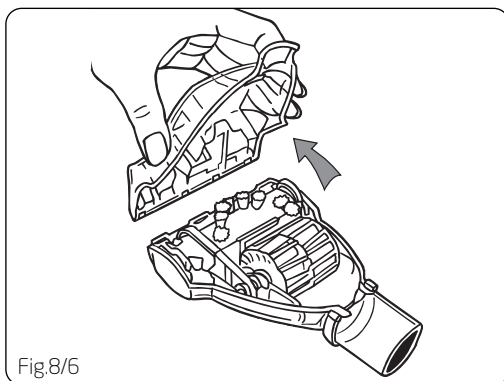

Fig.8/6
3. To re-assemble, ensure that the tabs are engaged. Pivot the lower housing closed and rotate the locking ring 180° (Fig.8/7).